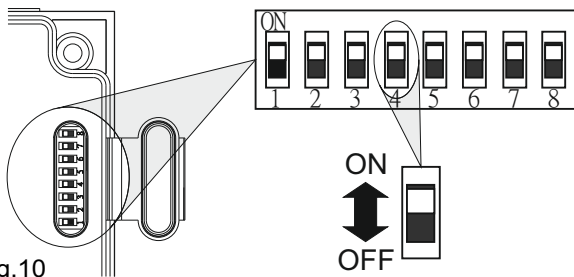

Fig.10
The desired humidity level and run on time are selected by means of 8 dip-switches placed on the printed circuit board, and easily accessible. Each dip-switch has two positions [ON (1) and OFF (0)] which are selected with the small plastic screwdriver supplied with the fan (fig.10):